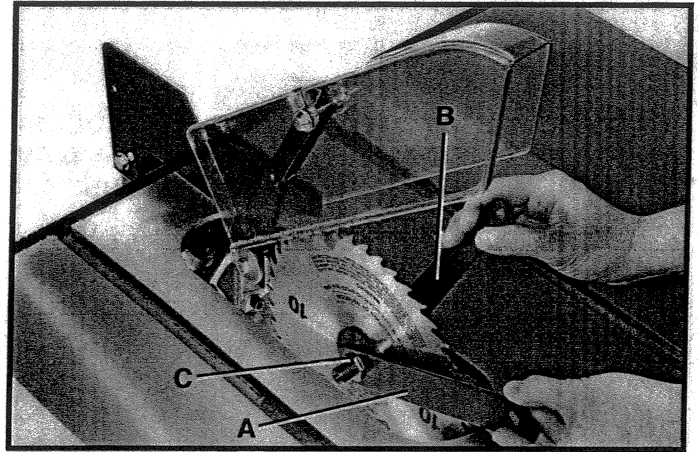

Fig. 76
4. Place the open end wrench (B) Fig. 76, on the flats of the saw arbor to keep the arbor from turning, and using wrench (A), turn the arbor nut (C) toward the front of the saw. Remove arbor nut, blade flange and saw blade.
5. Assemble the new blade, making certain the teeth are pointing down at the front of the saw table and assemble outside blade flange and arbor nut. With wrench (B) Fig. 76, on the flats of the arbor to keep it from turning, tighten arbor nut by turning wrench (A) counterclockwise.